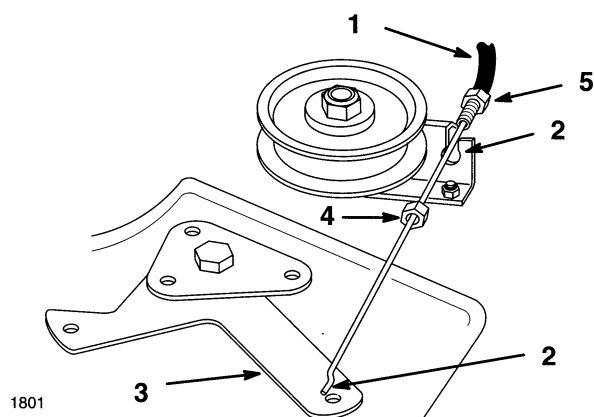

Figure 16
5. Unhook the blade control (PTO) cable Z end from the idler arm on the mower (Fig. 16).
6. Remove jam nut from blade control (PTO) at mounting bracket. Slide the cable from the bracket and re-install jam nut for safekeeping (Fig. 16).